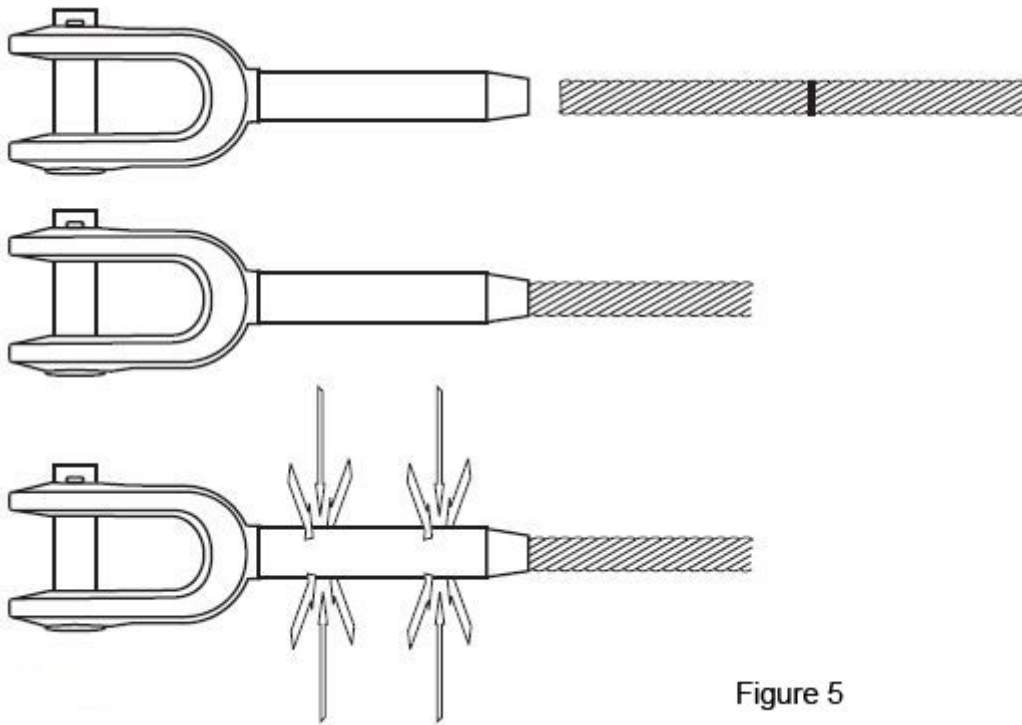

Figure 5
- mark the rope to indicate the proper length of rope to be inserted into the socket (figure 5)
- insert the rope into the socket and swage the socket with the specified dies (figure 5)